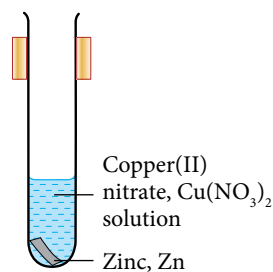

Figure 1.8
- Figure 1.8 shows a piece of zinc plate, Zn is added into a test tube containing copper(II) nitrate, $\text{Cu}(\text{NO}_3)_2$ solution. The observation and inference for the reaction are as follows: